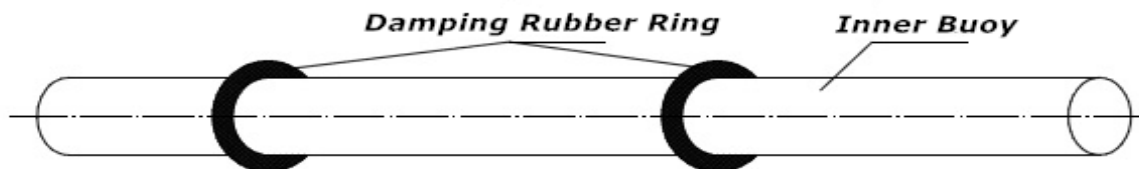

Figure 4 Damping Rubber Ring
5.2.2 If the ZTD transmitter and other parts are packaged separately, before installing the inner cylinder, please remove the two damping rubber rings on the inner cylinder (Figure 4).